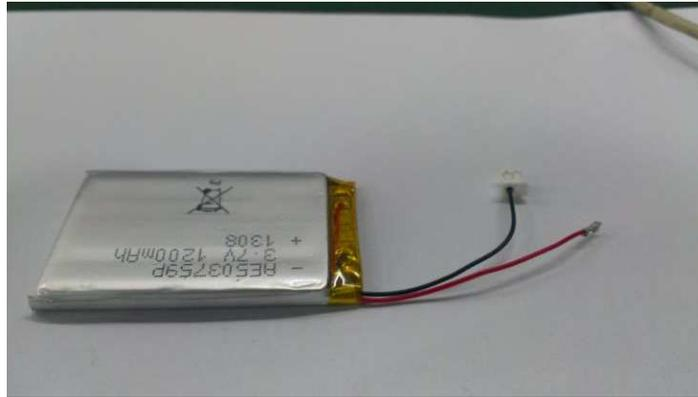

Figure 18.
1. Remove the positive terminal from the connector on the battery pack as shown in Figure 18: